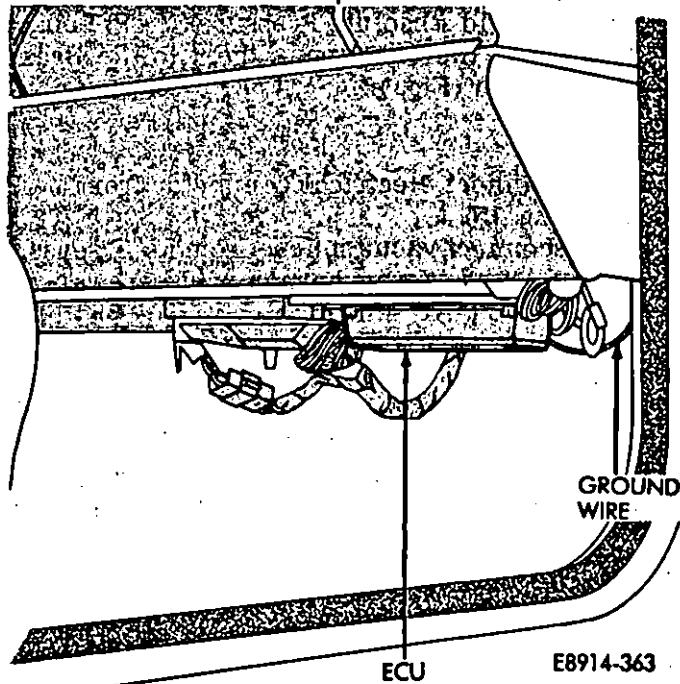

Fig. 17—ECU Removal/Installation
The ECU is located under the instrument panel on the passenger side of the vehicle (Fig. 17).
- (1) Raise the hood and disconnect the battery negative cable.
- (2) Remove the ECU mounting nuts and ground strap, remove the ECU from the vehicle (Fig. 17).